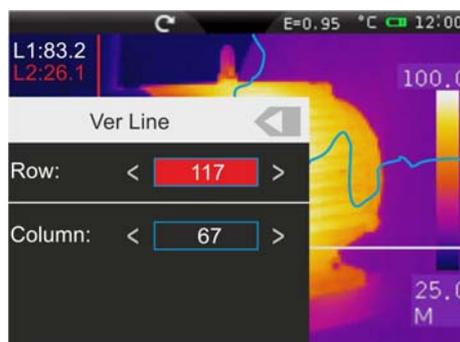

Fig. 27: Setting the position of the cursor of the Line
2. Touch the icon “” to set the precise value in pixel of the position of the cursor of the Line displayed (see Fig. 27).